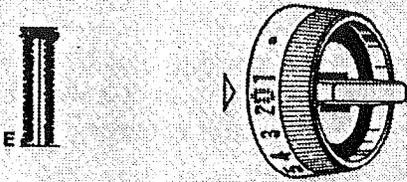

Fig. 5
5. Raise presser foot and reset stitch width control to original setting. Raise feed dogs and lower presser foot. Sew other side of buttonhole until desired length is obtained. Stop with needle in fabric on left side of stitching. Point E. See Fig. 5
6. Raise presser foot. Set stitch width control to 5. Drop feed dogs. Lower presser foot and bartack about three (3) stitches. Remove fabric from machine.